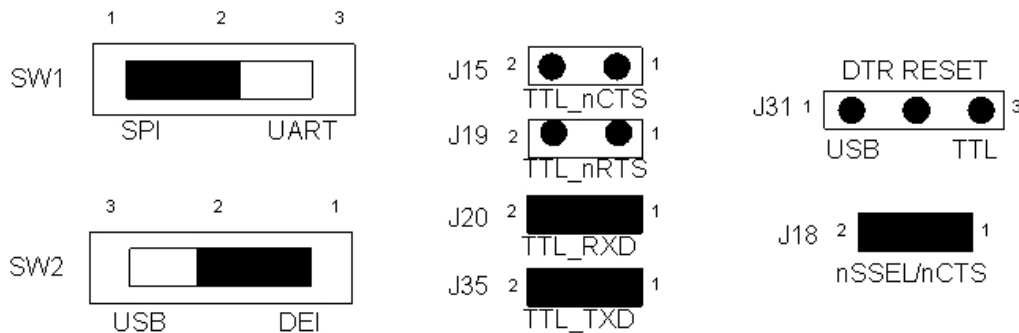

Figure 7. Switch and jumper settings required for host microcontroller UART access by InSight Adapter
2. Configure switches SW1 (SPI, pin 1, left) and SW2 (DEI, pin 2, right) and connect jumpers at J15, J18, J19, J20, J31, and J35, as shown in Figure 7.